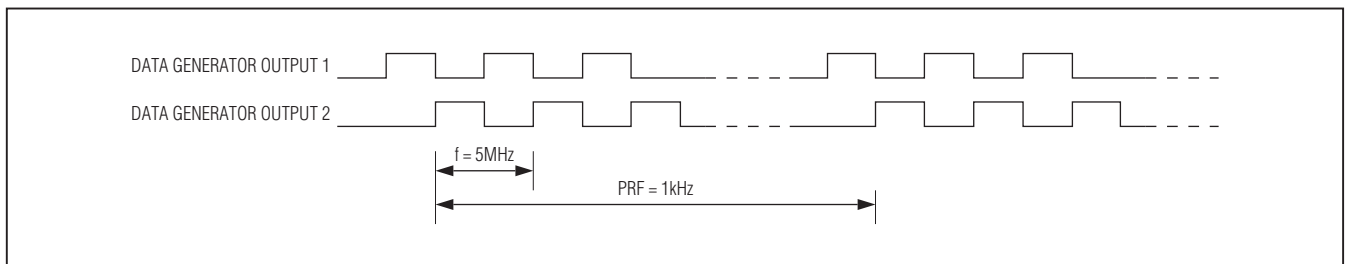

Figure 1. Data Generator Outputs
- 10) Set the data generator to generate two outputs. Each output has three pulses in every pulse-repeating period, as shown in Figure 1. Set the pulse amplitude to +3.3V. Disable the outputs.